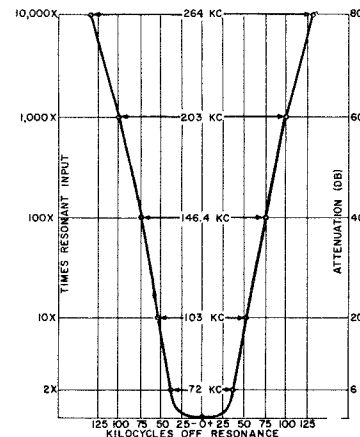

Figure 7-14. IF Selectivity Characteristic
(1) This factor is indicated by the amount of RF signal required to obtain a 10 to 1, signal-to-noise ratio (modulated and unmodulated signal). In the AN/FRR-27, the over-all sensitivity should be between 2 and 8 microvolts for a 10 to 1 signal to noise ratio, throughout the entire tuning range of the receiver. The over-all IF selectivity characteristic is indicated by figure 7-14.